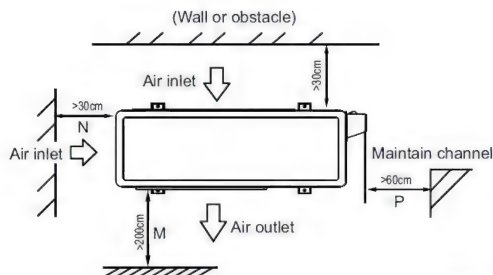

Fig.6-5
- The minimum distance between the outdoor unit and obstacles described in the installation chart does not mean that the same is applicable to the situation of an airtight room. Leave open two of the three directions (M,N,P) (refer to Fig.6-5)